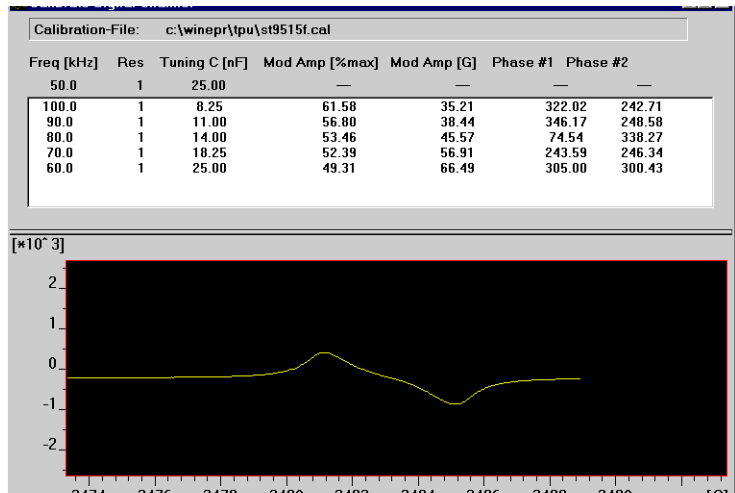

Figure 8-14 The Calibration routine
6. **Start the calibration routine.** Click the **Start** button. A new dialog box will appear. (See Figure 8-14.) The spectrometer will then automatically calibrate the signal channel at each of the specified modulation frequencies.
7. **Check Mod. Amp [G] at 100 kHz.** The calibration routine performs its task sequentially, starting with the highest modulation frequency and continuing for each selected modulation frequency. As each parameter is determined, it is displayed in the table. (See Figure 8-14.) Wait until the 100 kHz calibration is completed and note the value in the fifth column of the table, Mod Amp [G]. This value can allow excessive current to flow through the modulation coils of the cavity at the maximum modulation amplitude, resulting in damaged modulation coils. Compare the Mod Amp [G] at 100 kHz with the values listed for your cavity in Table 8-1. If the value obtained by the calibration routine exceeds the values listed in Table 8-1, first record the values for Mod Amp [G] and Mod Amp [%max] because you will need them for the next step. Then stop the calibration routine by clicking the STOP button in the Tool Bar twice. If the value is less than or equal to the value listed in Table 8-1, allow the calibration routine to continue its task and proceed to Step 9.